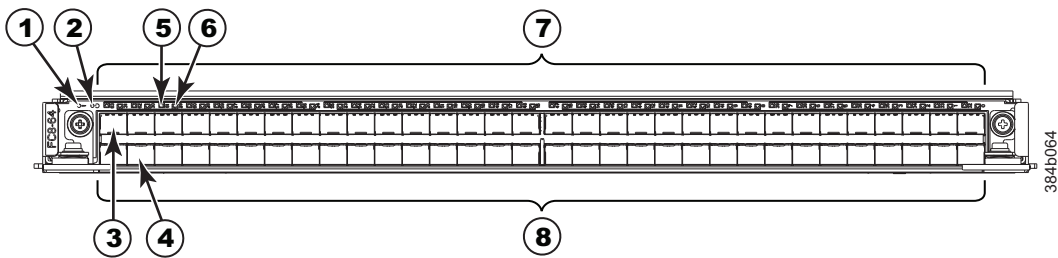

Figure 62. FC8-64 port blade
- Figure 62 on page 163 shows an FC8-64 port blade